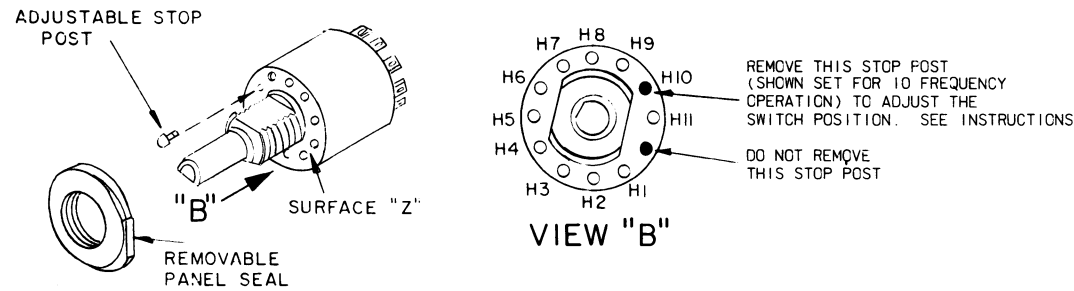

Figure 1 - Stop Post Adjustment
3. Unscrew the panel seal to gain access to the stop post (see Figure 1).